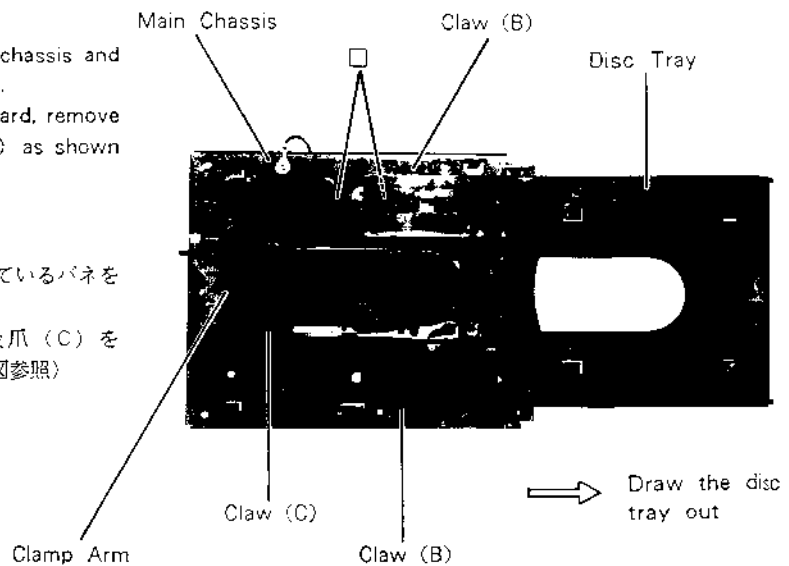

Figure 7
- (3) Spread two claws (B) toward outside at the both sides of the disc tray and draw out the disc tray as shown in Figure 7.
- (2) After pulling out the disc tray frontward, remove the clamp arm by pressing one claw (C) as shown in Figure 7.
- (1) Remove one belt and two screws marked "□" as shown in Figure 7.